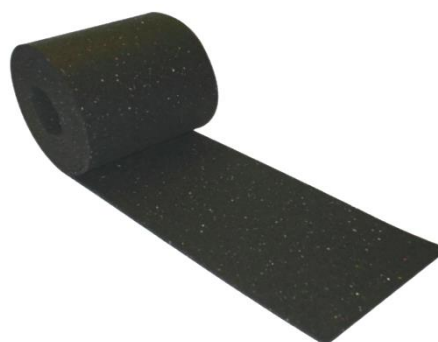

Figure 3. Anti-Skid
- o The antiskid rubber mats (as shown in Figure 3) may not be torn or crushed, during or after installation. If they happen to be torn or crushed, please purchase a replacement at Dhatec.
- o The anti-skid rubber mats (as shown in Figure 3) may not be torn or crushed, during or after installation. If they happen to be torn or crushed, please purchase a replacement at Dhatec.